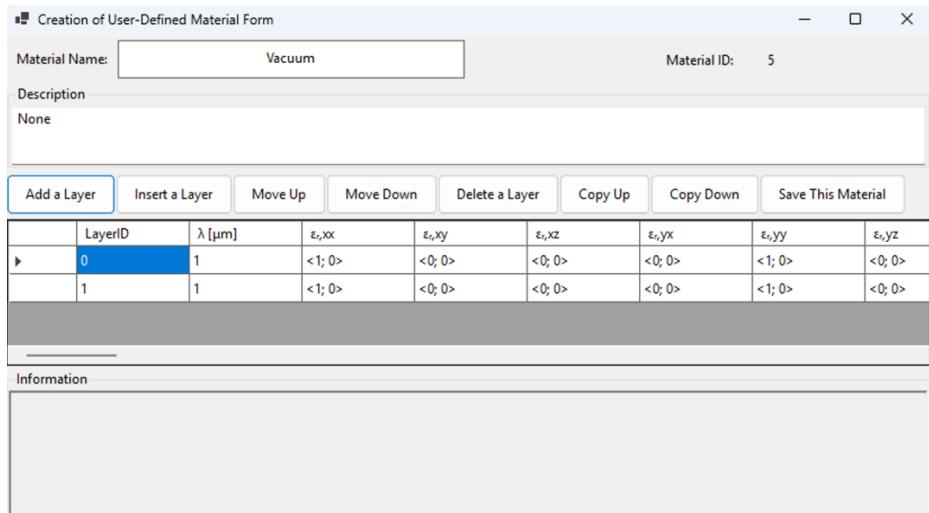

Figure 11. Increased layer number on "Creation of User-Defined Material Form" window after clicking "Add a Layer" button.
4. Click the “Add a Layer” button once because this table requires a minimum of two layers ordered by increasing wavelength ( $\lambda$ ). After clicking, the row number will be increased as the Figure 11.